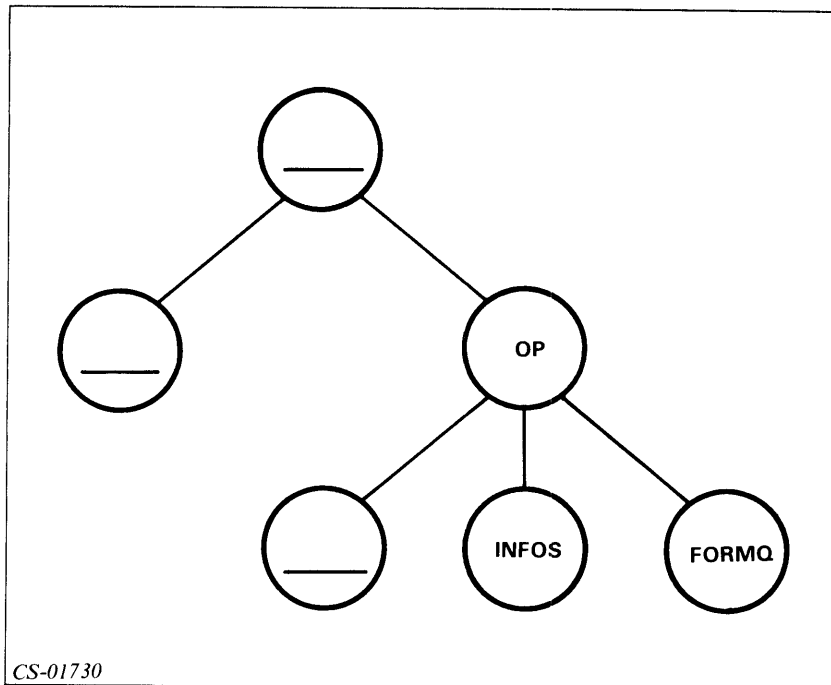

Figure 10.19 Module 10: Quiz
1. Identify the processes in the process tree shown in Figure 10.19.